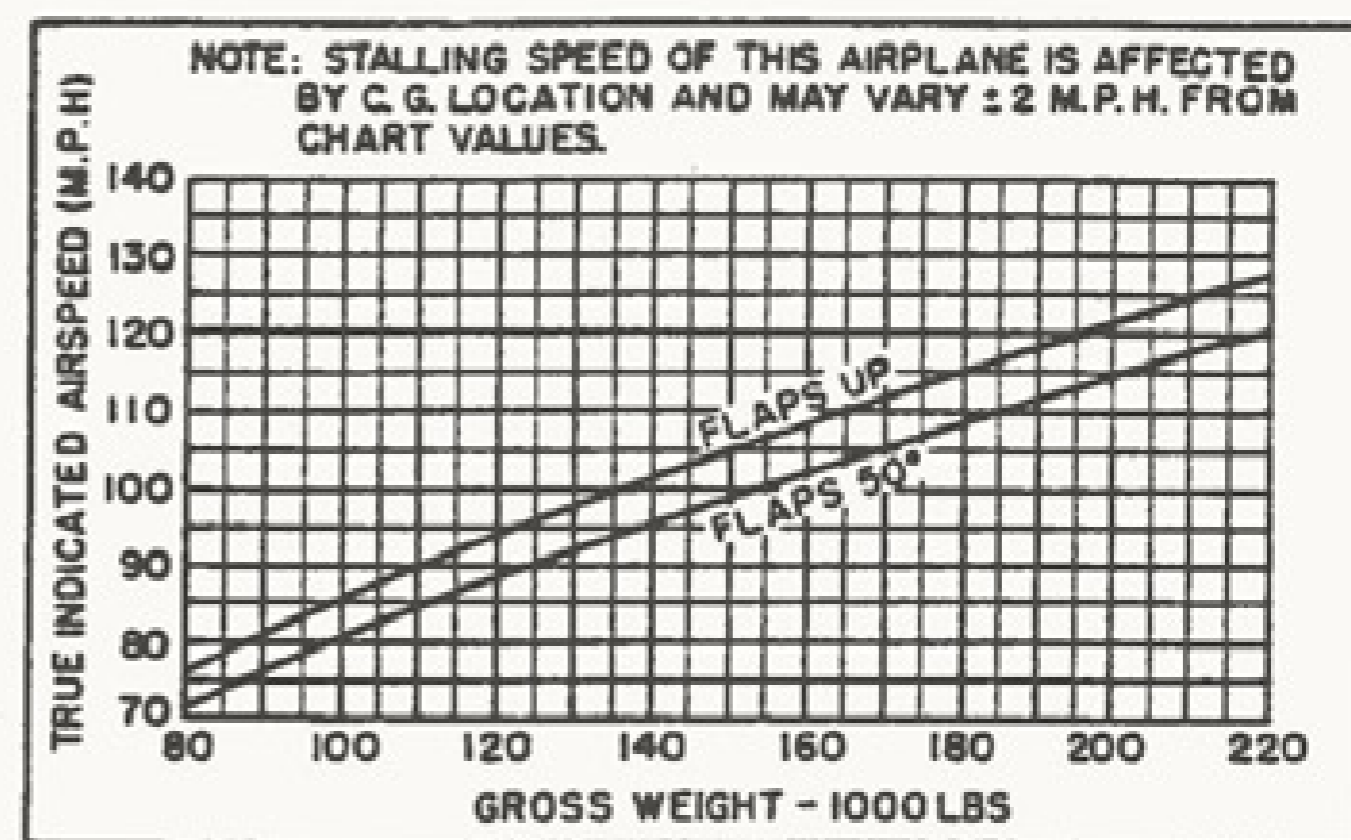

Figure 5. Stall Speed Chart
a. STALLING SPEEDS.- Stall speeds vary depending on the gross weight and C.G. of the airplane. (See figure 5.) A stall with a rearward center of gravity is more violent with a tendency for the airplane to drop off into a spin. An airspeed of at least 15 mph IAS above the stall speed should be maintained at all times.